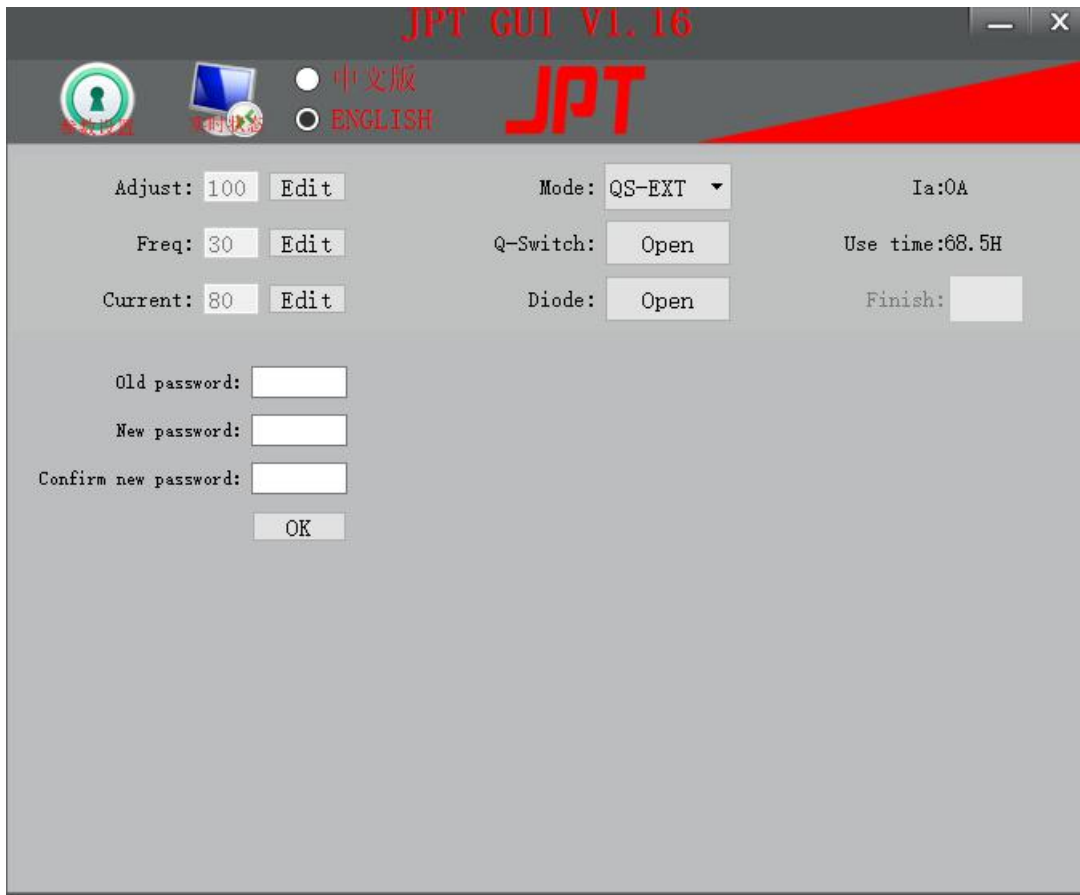

Figure 11
5) Click the "Reset Password" button to enter the password modification page. The password format is a 6-digit password with "0-9", as shown in Figure 11.